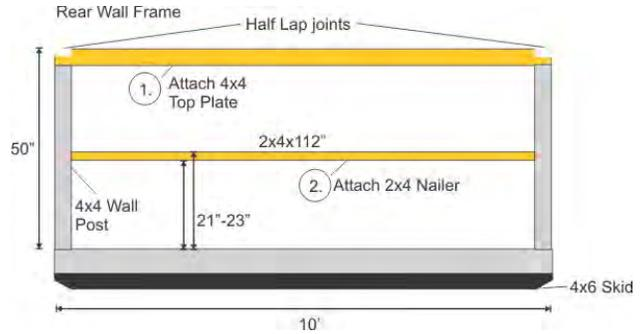

Figure 1
**Step 1.** Once the corner posts are done begin attaching your top plate beams and nailers. Start with the rear wall top plate making sure the half-lap joints are placed facing up. Figure 1. The rafter layout is marked on the beams and should be placed with layout up. The rear top plate beam is end nailed through the half laps into the top of the posts using three 16d framing nails at each post.
**Step 2.** Install the 2x4 horizontal nailer at 21-23". Figure 1. Nailers are toe nailed to the corner posts using one 16d nail on each 2" side and two 16d nails up from the bottom 4" side.